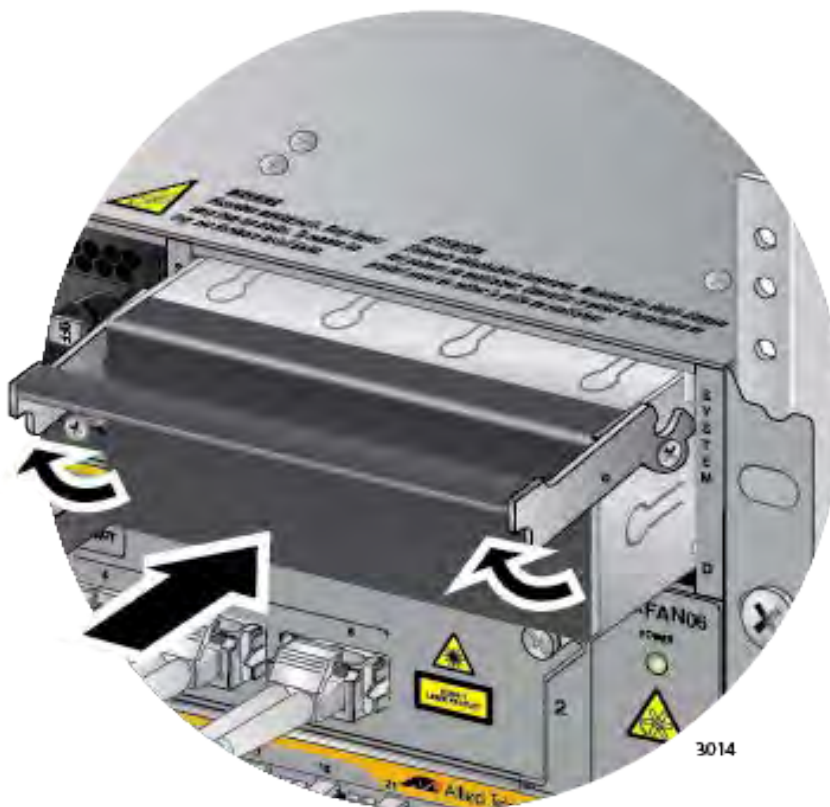

Figure 173. Installing a Blank Power Supply Slot Cover
13. Place the locking handle on the slot cover in the up position and slide the cover into the empty power supply slot. Refer to Figure 173 on page 276.